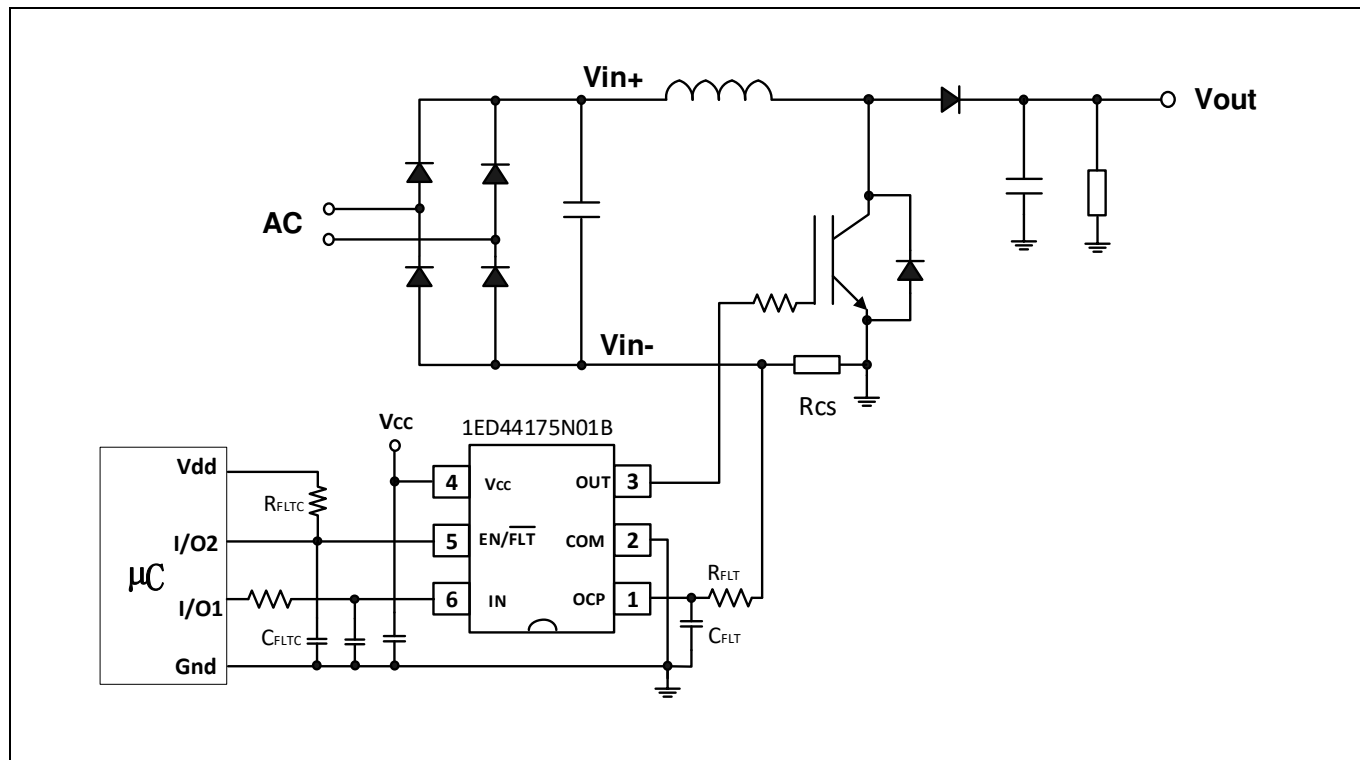
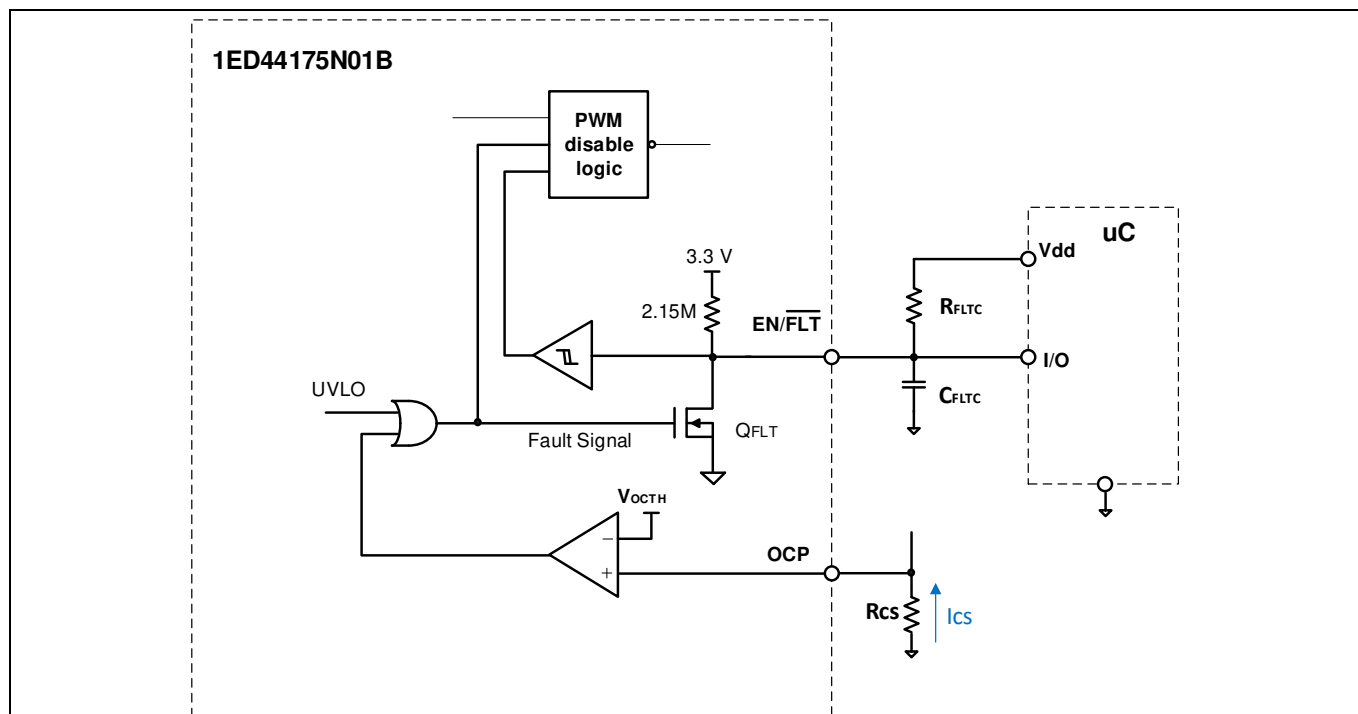

Figure 5 Application circuit example of active power factor correction (APFC) with R_{CS} for OCP
Figure 11 Diagram of the fault output circuit and fault clear time setup
- The R_{CS} should be connected between the pin of system ground and the input power return to detect short-circuit current (refer to Figure 5). An RC filter needs to be connected between the shunt resistor and the OCP pin if the internal blanking time is not sufficient to eliminate the noise.
Figure 5 shows a typical application circuit of 1ED44175N01B for the interface schematic with control signals connected directly to a XMC™ μ C.
The length of the fault clear time period (t_{FLTC}) is determined by exponential charging characteristics of the capacitor where the time constant is set by R_{FLTC} and C_{FLTC} . Figure 11 and Figure 5 show that R_{FLTC} is connected between the external supply ($V_{\text{dd}} = 3.3 \text{ V}$) and the EN/ $\overline{\text{FLT}}$ pin, while C_{FLTC} is placed between the EN/ $\overline{\text{FLT}}$ and COM pins. Actually the EN/ $\overline{\text{FLT}}$ pin is pulled up to 3.3 V with a 2.15 M Ω pull-up resistor internally.